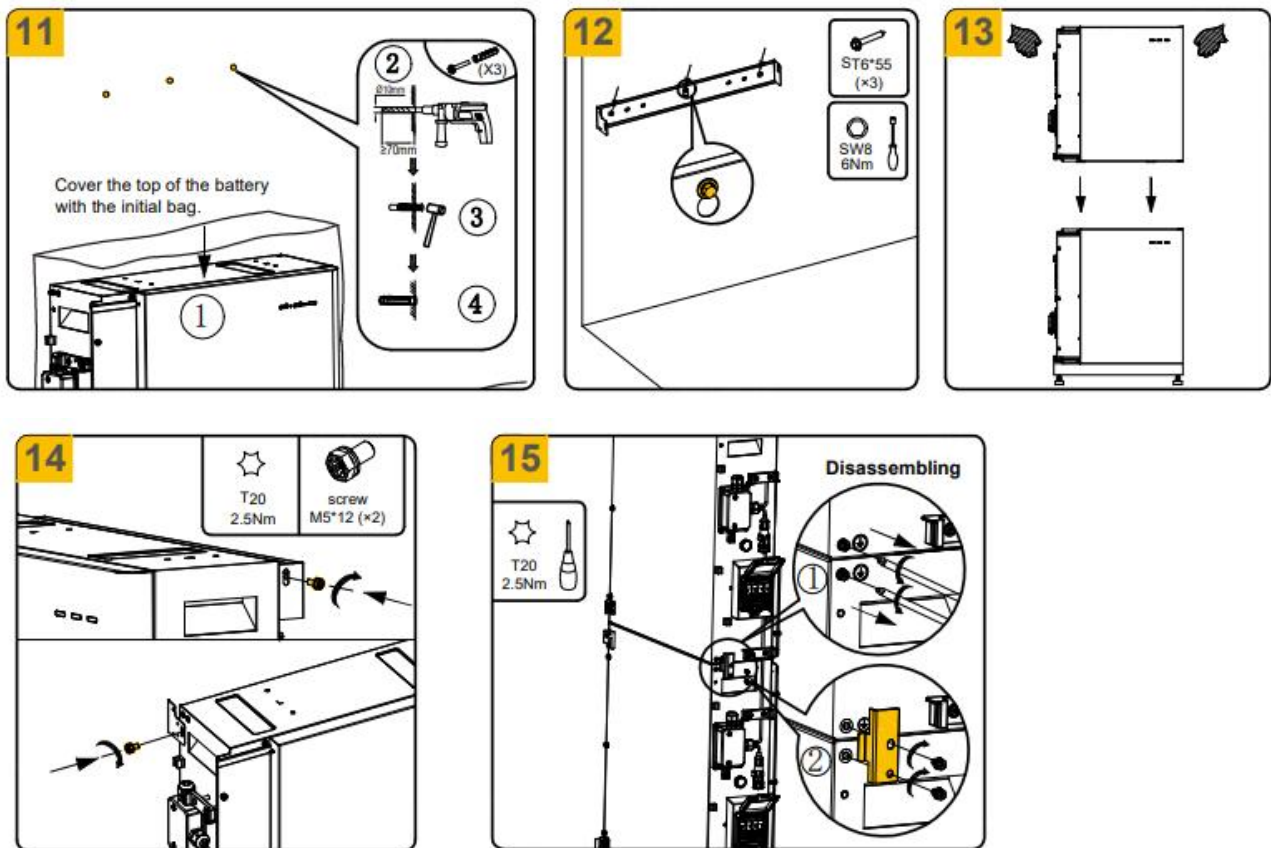

Figure 5-3 Battery Base Installation Steps Diagram
1. Take out two fixing brackets and place them against the rear side of the battery base, secure the two fixing brackets using the M5*12 screws (tool: T20 screwdriver, torque: 2.5 Nm). Refer to 1-2 in Figure 5-3.
2. Place the battery base unit against the wall, place the spirit level on the battery base, check the bubbles and adjust the feet to level the battery base unit, then mark the position of the drill holes. Refer to 3 in Figure 5-3.
3. Take out the positioning cardboard, fold 90 degrees according to the markings, place the bottom surface of the positioning cardboard on the base unit and let the right edges flush, then mark the position of the drill holes. Refer to 4 in Figure 5-3.
4. Remove the base unit, drill 5 holes in the wall with a $\Phi 10$ drill to a depth of about 70mm and clean the holes and insert screw anchors into the drill holes. Refer to 5 in Figure 5-3.
5. Secure the two fixing brackets to the wall using the provided screws (tool: Socket wrench SW8, torque: 6 Nm). Secure the limit bracket to the wall using the provided screws (tool: Socket wrench SW8, torque: 6 Nm). Refer to 6 in Figure 5-3.
6. Unscrew the screw at the lower left of the first battery. Lift the battery by using the handles at two sides, place the battery on the top of the battery base unit, align their contours and ensure that the battery is securely in place. Refer to 7 in Figure 5-3.
7. Secure the battery to the battery base unit, tighten them with one screw M5*12 from the lower left of the battery (tool: T20 screwdriver, torque: 2.5 Nm). Take out one right connection plate (outdoor) from the battery base package, use it to connect the lower right corner of the first battery and the upper right corner of the base unit (tool: T20 screwdriver, torque: 2.5 Nm). Refer to 8 in Figure 5-3.
8. Secure the battery to the limit bracket on both sides with a screw M5*12 provided. Use a magnetized screwdriver to insert a screw into the upper screw hole of the limit bracket and tighten it (tool: T20 screwdriver, torque: 2.5 Nm). Refer to 9 in Figure 5-3.
9. Take out the positioning cardboard, fold 90 degrees according to the markings, place the bottom surface of the positioning cardboard on the top of the first battery and let the right edges flush, then mark the position of the drill holes. Refer to 10 in Figure 5-3.
10. Cover the top of the battery with the initial packaging bag. Drill 3 holes in the wall with a $\Phi 10$ drill to a depth of about 70mm and clean the holes and insert screw anchors provided into the drill holes. Refer to 11 in Figure 5-3.
11. Secure the limit bracket to the wall using the provided screws (tool: Socket wrench SW8, torque: 6 Nm). Refer to 12 in Figure 5-3.
12. Take out the second battery from the package. Lift the second battery by using the handles at two sides, place the second battery on the top of the bottom battery, align their contours and ensure that the second battery is securely in place. Refer to 13 in Figure 5-3.
15. Take out the grounding bars from the battery package, and use it to connect the lower left corner of the upper battery and the upper left corner of the lower battery (tool: T20 screwdriver, torque: 2.5 Nm). When doing so, unscrew the two screws before connecting the grounding bar. Refer to 14 in Figure 5-3.
16. If you want to mount more batteries, please repeat the above mounting steps to mount the second column batteries. Refer to 15 in Figure 5-3.